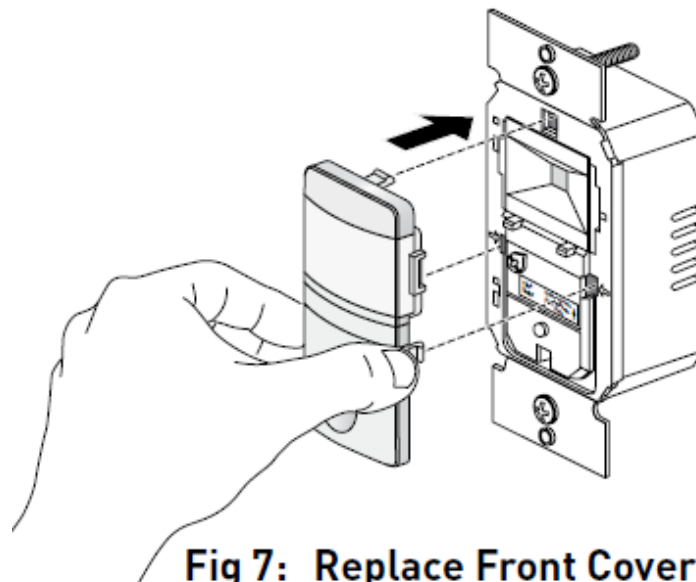

Fig 7: Replace Front Cover
3. Take the new color front cover, place the top peg in first then snap in each side one at a time (see Fig. 7).